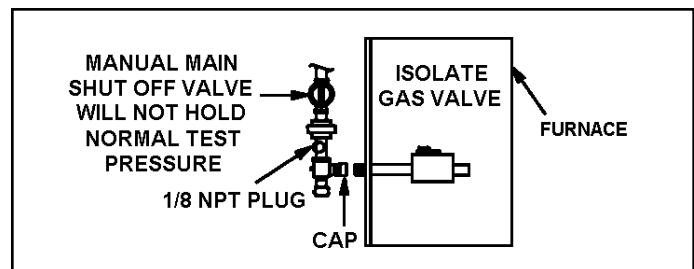

Figure 26.
5. A 1/8" N.P.T. plugged tap or pressure post is located on the gas valve to facilitate test gauge connection. See Figure 26.